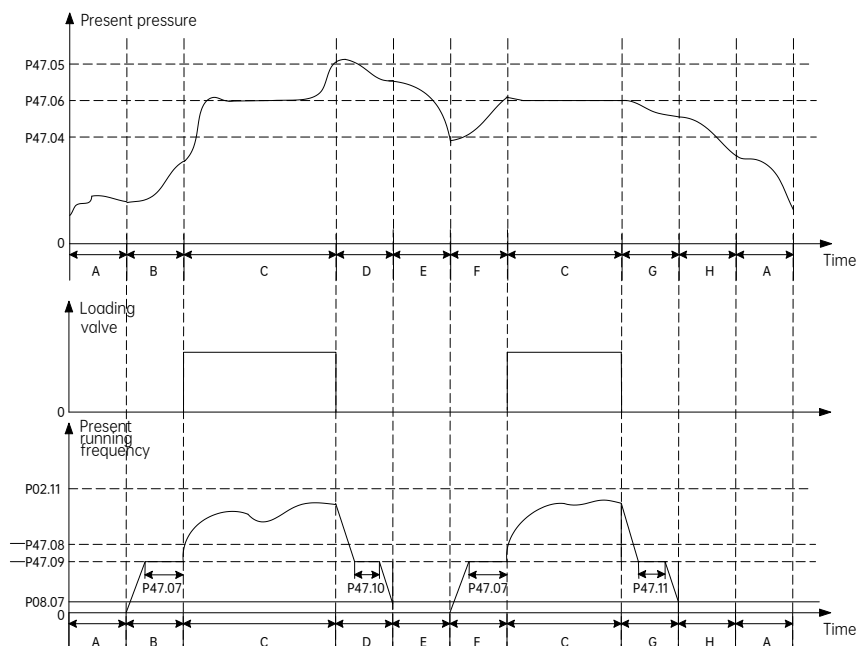

Figure 4-38 Running pressure/frequency control of the air compressor
(2) Control of the running pressure/frequency during air compressor operations is shown in Figure 4-38: